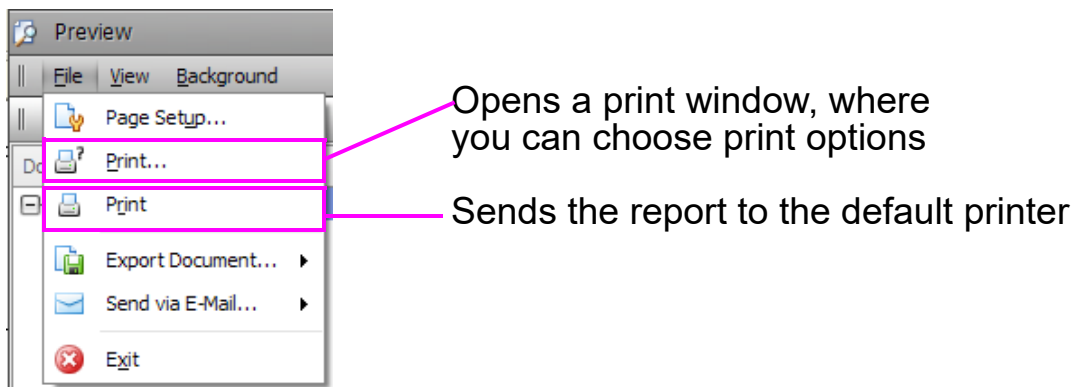

Figure 5-47: Print choices
4. In the Preview window, click **File > Print** (Figure 5-47).